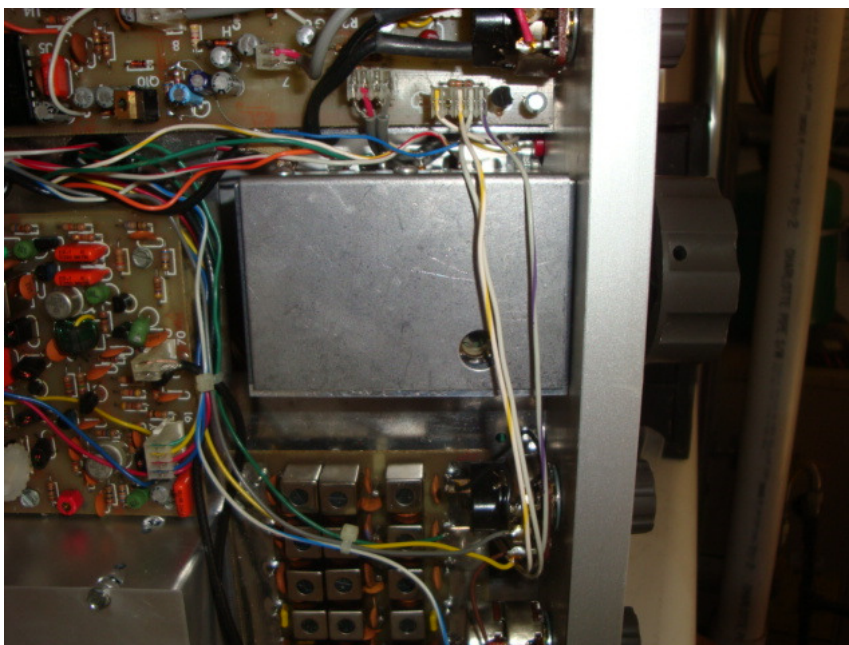

Figure 1. Bottom of Corsair II With Covers Removed
3. Find the PTO, bottom center (Figure 1). It is held by the two screws on the front sub panel. Remove them and save the grounding spring wires. Gently pull the PTO out a little and look at the wires on the side. It is better to unsolder these than to cut them, but either will work. They are not organized in the same order as on the schematic. From the left 1) is signal out with ground, 2) is 8 volts regulated supply, 3) is the enable connection which is jumpered on the back of the radio. 4) is the offset wire which applies a varying voltage to the PTO for RIT. 5) is the Shift wire which